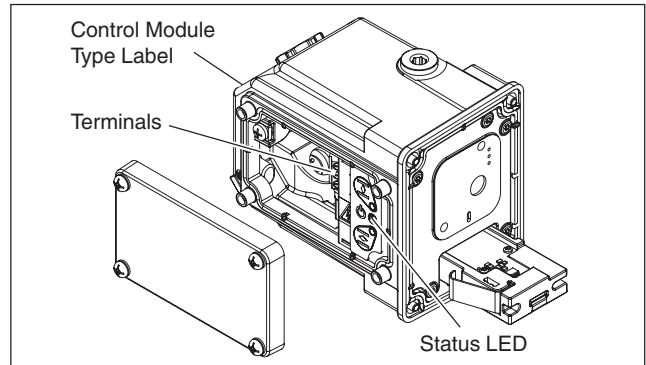

Fig. 2.5.1 Installing wiring
- 1 Remove control module cover (see figure 2.5.1)
- 4 Mount the control module cover to the housing (see figure 2.5.1) or continue with chapter 3. Take care that the cover seal is in place to comply to dust and water tightness according IP65 / NEMA4X.